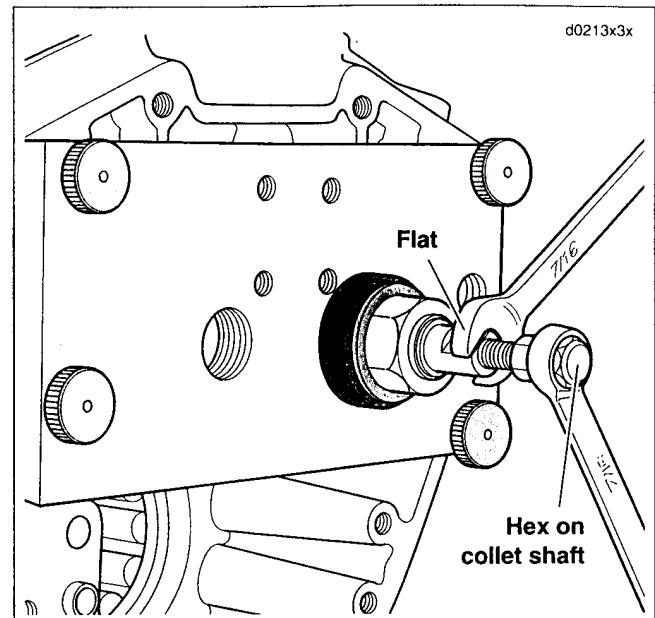

Figure 3-143. Expanding Collet By Turning Hex Clockwise
10. See Figure 3-143. Using a 7/16 in. open end wrench, hold flat on collet to prevent rotation. Using a second 7/16 in. open end wrench, expand collet by turning hex at end of shaft in a clockwise direction. Expandable end of collet makes contact with needle bearing ID.